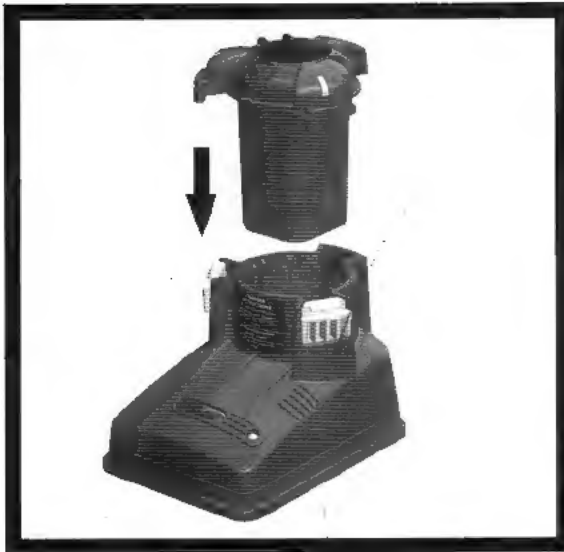

Fig. 5
2. Plug the power supply into the mains socket (or 12V vehicle charger plug into cigarette lighter socket) and the small plug into the jack into the side of the charger. Switch on AC mains/ vehicle power. Insert battery into the charger (using the yellow tabs on the top of the battery pack to line up with the yellow charger latches to ensure correct orientation, see Fig. 5.) secure it in place using the latches and observe the LED status. Do not force the battery pack into place, it should locate easily. If there is resistance, there may be an obstruction!